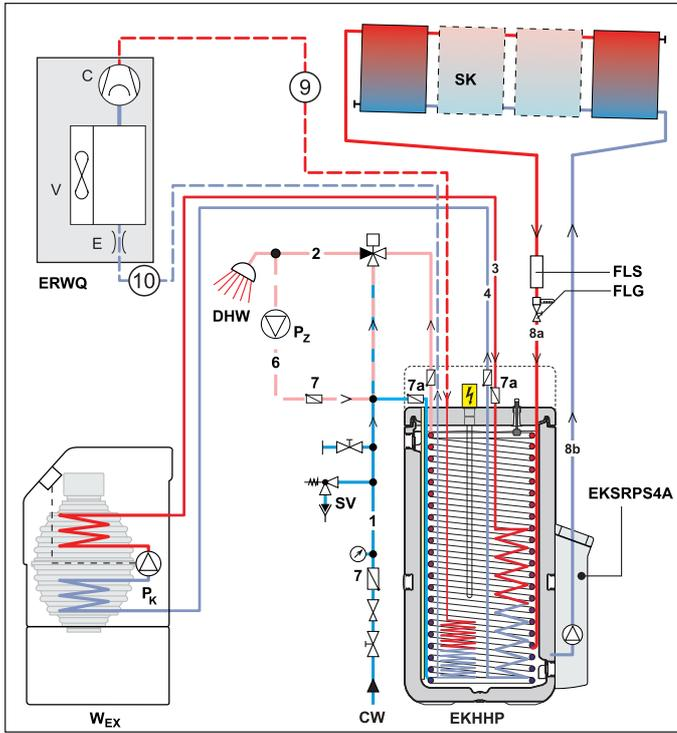

Fig. 4-5 Hydraulic connection - legend see tab. 4-2
- Create hydraulic connections on the DAIKIN EKHHP (see fig. 4-5).
Tab. 4-2 Legend for fig. 4-5
- Carry out hydraulic system incorporation in accordance with fig. 4-5.